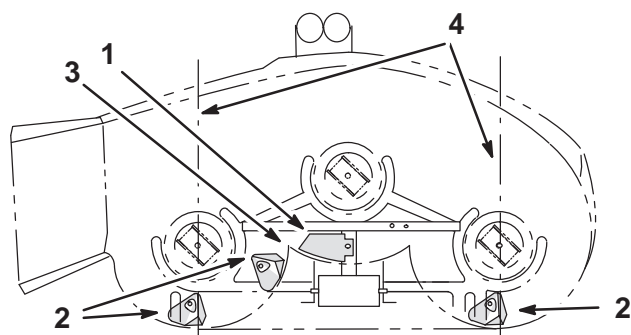
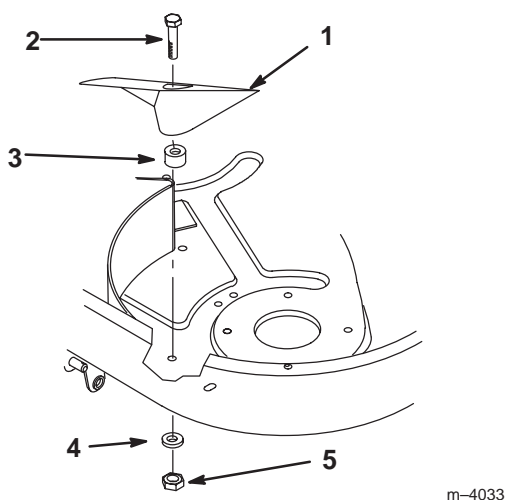

Figure 15
Figure 16
1. Place the kicker plate into position (Fig. 15).
3. Position kickers (Fig. 15) and secure them with 3 bolts (5/16 x 1 in.), spacers, flat washers, and locknuts (Fig. 16).